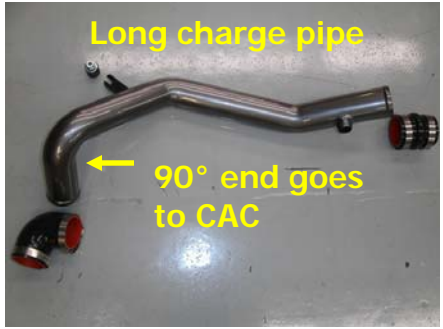
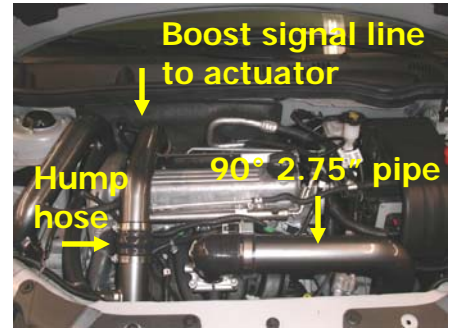

Fig. 20
Fig. 22
22. Install the charge air cooler (CAC) assembly – installing the CAC assembly will require the four (4) CAC brackets, eight (8) hex head cap screws and the long charge pipe from kit 768660-0001. Remove the top radiator brackets so the radiator can be lifted and tilted out. Insert the large charge pipe and anti-vibration mount in the approximate location (the 90° end goes to the CAC) (Figure 20). Lift the radiator out of the bottom grommets and insert the bottom CAC brackets (see figure). Once the bottom brackets are positioned around the grommets and the long charge pipe is approximately positioned, the radiator can be tightened down (Figure 22). Install the top CAC brackets next; the L-shaped bracket is for the driver-side (left). Snake the CAC in place as shown in the photo and start all eight (8) hex head cap screws. Make sure the CAC assembly is clear of the bumper; tighten all fasteners.